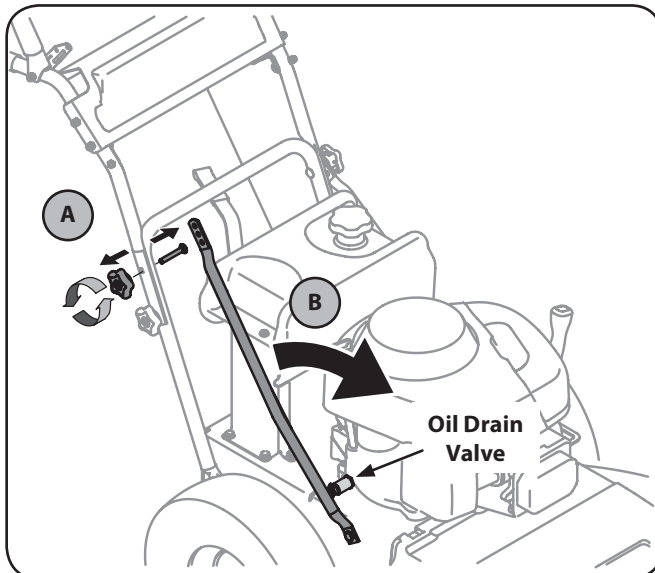

Figure 6-1
2. Remove the upper star knob and carriage screw on the right side of the handle. See Fig. 6-1.
3. Pivot the support tube forward to allow room to connect the oil drain hose to the oil drain valve. See Fig. 6-1